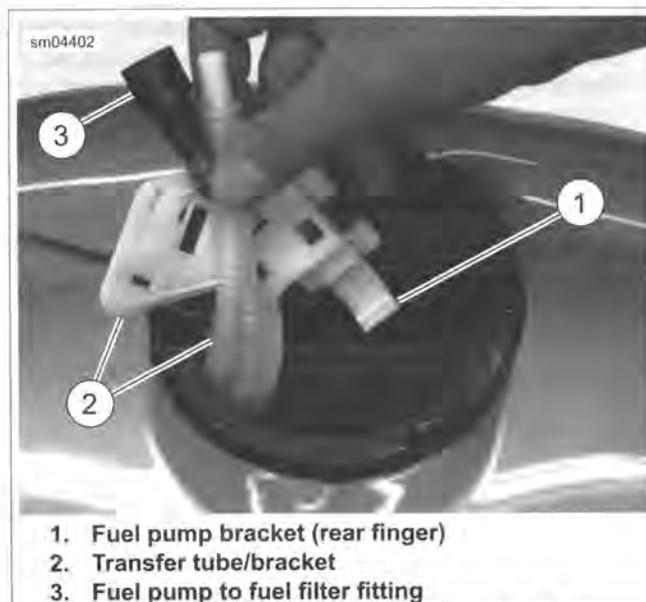

Figure 4-37. Rear Finger (Fuel Pump Bracket)
5. See Figure 4-37. Pull up on rear finger and slide fuel pump bracket forward until four ears on bracket are free of catches at top of tunnel.